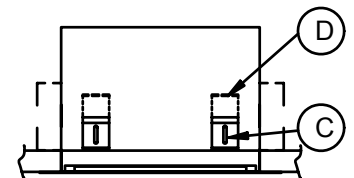

FIG. 3
4. REMOVE (4) WINGNUTS (C) AND MOUNTING BRACKETS (D). SEE FIG. 3.